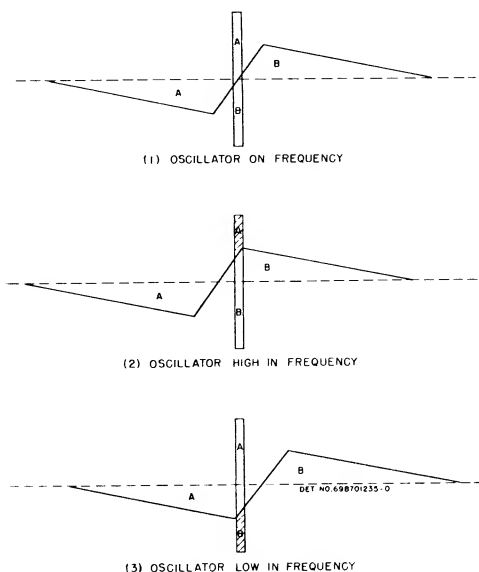

FIGURE 21. WAVEFORMS AT PHASE DETECTOR
in the center of the retrace time. See Figure 21(1). The sync pulses have an amplitude of from 6 to 8 volts while the sawtooth amplitude is about two volts. The RC time constant in the pulse input circuit to the diodes is long enough to maintain an average pulse voltage of 6 to 8 volts for two or three horizontal lines, which means that in the "on frequency" condition shown in Figure 21(1), the diodes conduct only on the pulses and since these are equal in amplitude and develop voltages of opposite polarity across R-83 in the first multivibrator grid circuit as shown in Figure 18, no control voltage is applied to the grid of V-16.
If the oscillator tends to increase in frequency, with respect to the sync pulses, the phase relationship shown in Figure 21(2) exists at the diodes. The phase of the sawtooth has now shifted so that at the same instant that the pulse is applied to the plate of diode "A" the positive saw is also applied to its cathode, so that only the shaded portion of the pulse causes conduction of diode "A". Diode "B", however, still conducts on the total amplitude of the negative pulse applied to its cathode aided by the positive saw applied to its plate at the same time. Since current flow thru diode "A" makes the grid end of R-83 negative, with respect to chassis, the decreased current flow caused by the sawtooth voltage bucking the pulse voltage at diode "A" results in a more positive voltage across R-83 applying a more positive voltage to the grid of V-16 which, as we have seen, results in decreasing the oscillator's frequency.
If the oscillator tends to decrease in frequency, with respect to the sync pulses, the phase relationship shown in Figure 21(3) exists at the diodes. At the same instant that the negative pulse is applied to the cathode of diode "B", the negative saw is applied to its plate so that only the shaded portion of the pulse causes conduction. Diode "A", however, conducts on the full amplitude of the positive pulse applied to its plate aided by the negative saw applied to its cathode at the same time. Since current flow thru diode "B" makes the grid end of R-83 positive, with respect to chassis, the decreased current thru diode "B" results in applying a more negative voltage to the grid of V-16 which, as we have seen, results in increasing the oscillator frequency. C-73, R-84 and C-74 provide two time constant filters which are necessary to obtain "fly-wheel" action of this AFC sync circuit.